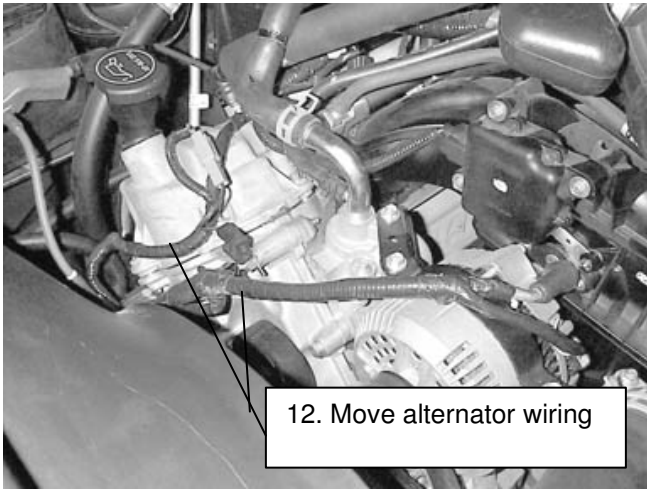
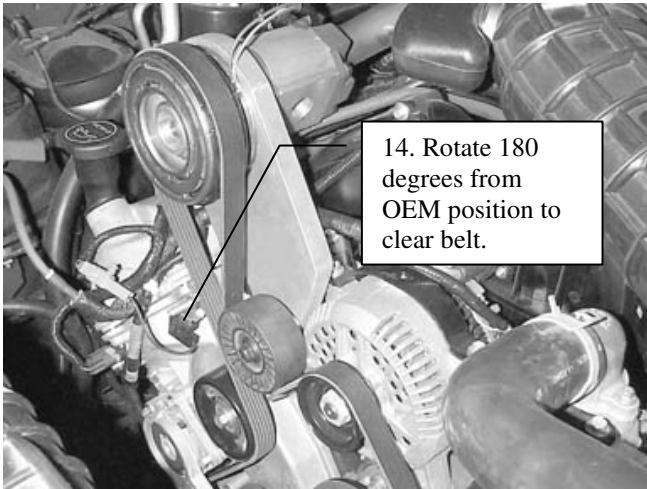

Fig. 3
Fig. 4
11. Insert the short idler bushing (2) into the 3" dia. idler pulley (5) and attach the other side to the boss on the front of the pump mount bracket (1) at Location C with the M10 x 30 shoulder bolt (8). Torque to 19-25 ft-lb.
12. Insert the longer idler bushing (17) into the beveled side of the 2" dia. idler pulley (16) and attach to the pump bracket at Location D with the M10 x 45 (18) bolt with a 3/8 flat washer (19). Torque to 19-25 ft-lb.
13. See Fig. 3. Disconnect the wiring from the alternator, pull it from the attachment points on the valve cover and push it back on top of the valve cover. Make sure the alternator wiring will not be pinched between the engine and the pump bracket when it is installed.
14. Attach the pump mount bracket (1) to the engine with the OEM stud bolt (6) at Location A and the M8 x 60 bolt at Location B. Torque these bolts to 19-25 ft-lb.
15. Replace the wire (14) on the stud bolt (9) rotating it 180 degrees from the OEM position so it points away from the pump bracket so it is not in the belt line. See Fig. 4. Reconnect wires to the alternator.
16. Reinstall OEM idler (12) using the OEM bolt in its original location. Torque to 19-25 ft-lb.
17. Install the serpentine pump drive belt (15) per diagram.